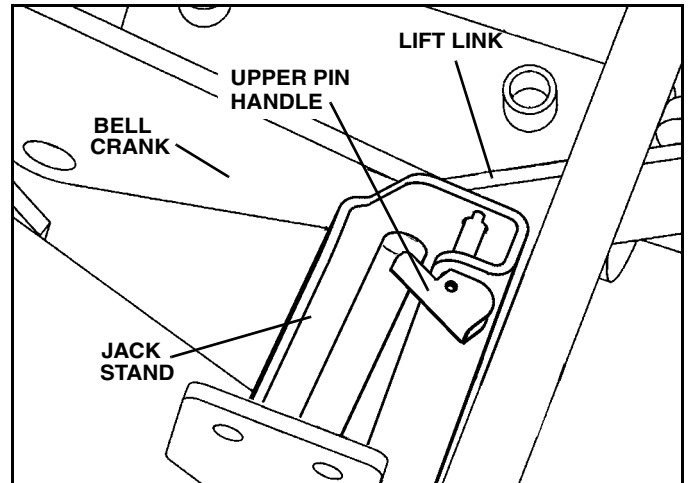

Figure 1-18
33. Disengage both pins on the jack stand by pulling the handles. Lower the jack stand and then engage the upper pin by pushing the handle down to lock the jack stand in place. (See Figure 1-18).